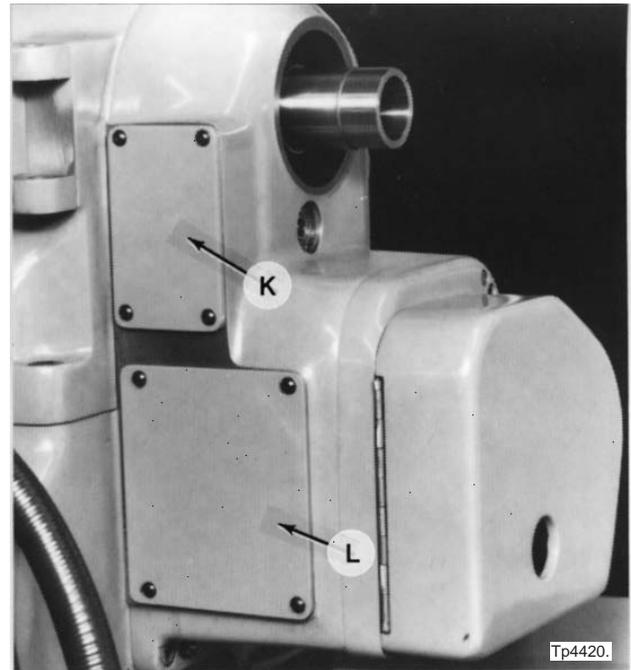

Figure 3.14 - Gear Box Covers
27. Remove covers "K" and "L", Figure 3.14.
47. Replace covers "K" and "L", Figure 3.14.